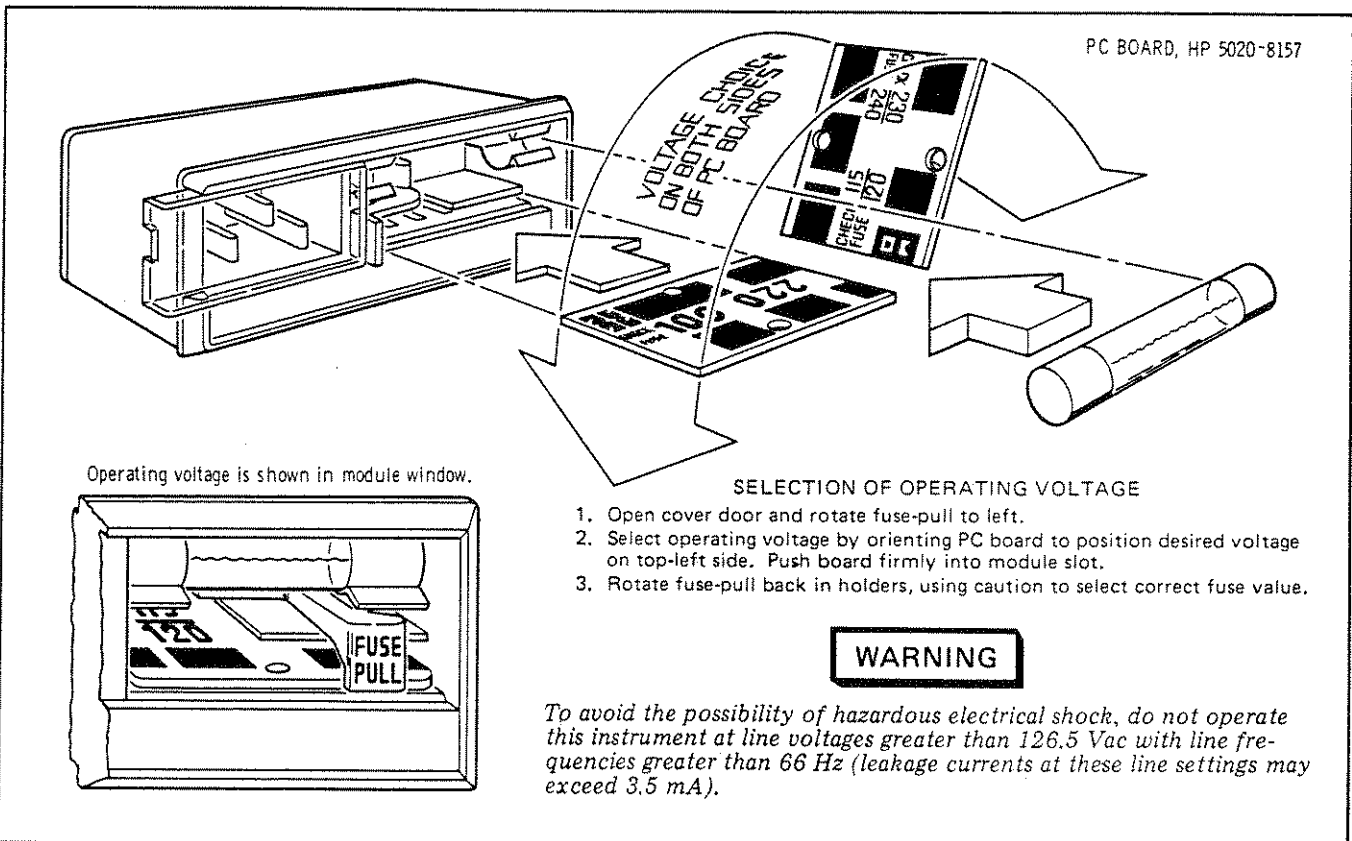

Figure 2. Line Voltage Selection
28. Figure 2 provides instructions for line voltage and fuse selection.
- 9** Line Voltage Selection Card. Matches transformer primary to line voltage. See Figure 2.
50. Rear Panel Fuse Replacement. The main ac line fuse is located on the rear panel next to the power cable jack (see Figure 2). To remove the fuse, first remove the line power cable from its jack. Slide the fuse compartment cover to the left, then pull the handle marked FUSE PULL and remove the fuse.